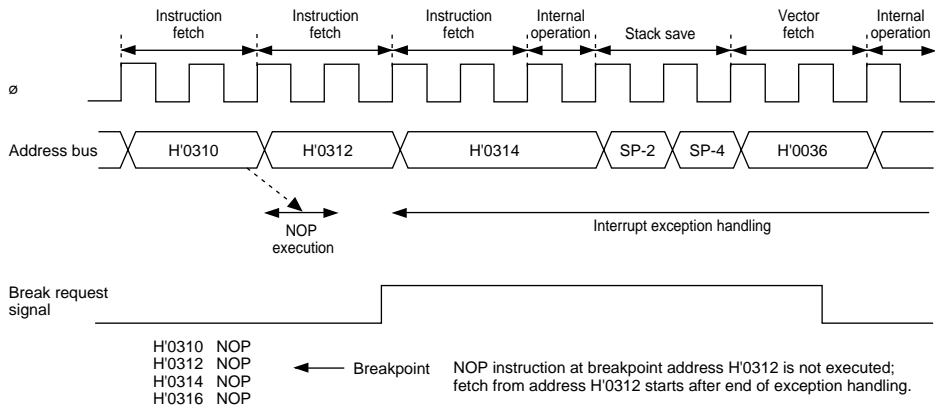

Figure 5.6 Examples of Address Break Timing
- As an address break interrupt is generated by a combination of the internal prefetch signal and address, the timing of the start of interrupt exception handling depends on the content and execution cycle of the instruction at the set address and the preceding instruction. Figure 5.6 shows some address timing examples.